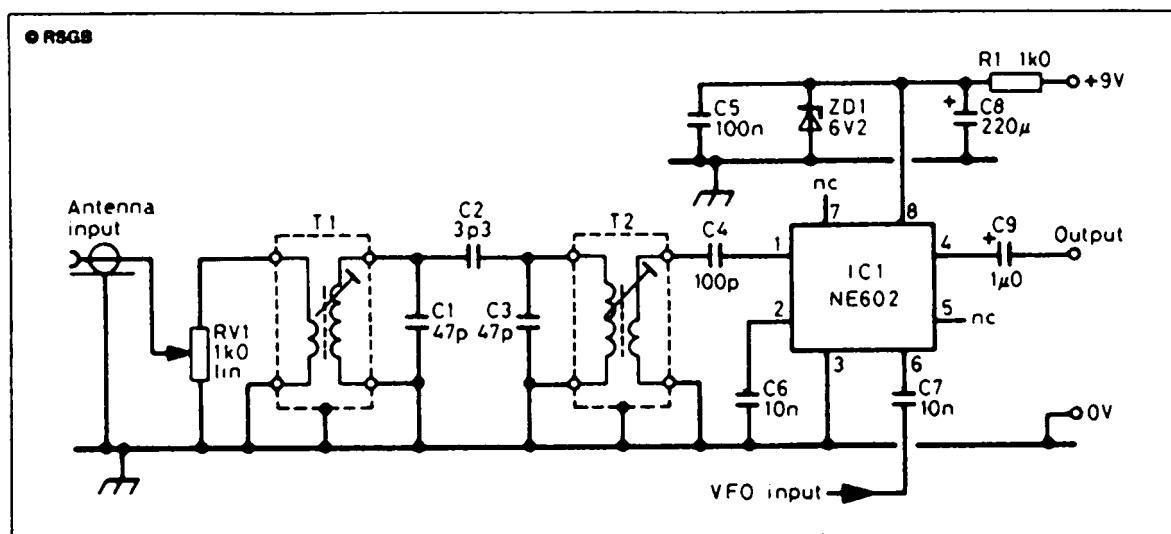

Figure 3 The mixer board has a bandpass filter and stabilised supply
Figure 3 It is important to check the component connections carefully. The diagram shows (a) top view of the IC, (b) electrolytic capacitor and (c) volume control (VR1) connected across the input of the amplifier
So far, we have an audio-frequency (AF) amplifier and a VFO; the addition of a mixer board gives us a complete direct-conversion receiver for 80 m. The mixer circuit diagram is shown in **Figure 3**. Let's follow the signal path.